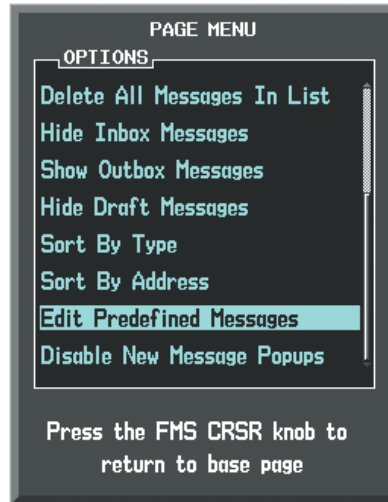

Figure 8-114 Creating/Editing Predefined Messages
- 2) Turn either **FMS** Knob to select 'Edit Predefined Messages' as shown in Figure 8-114.